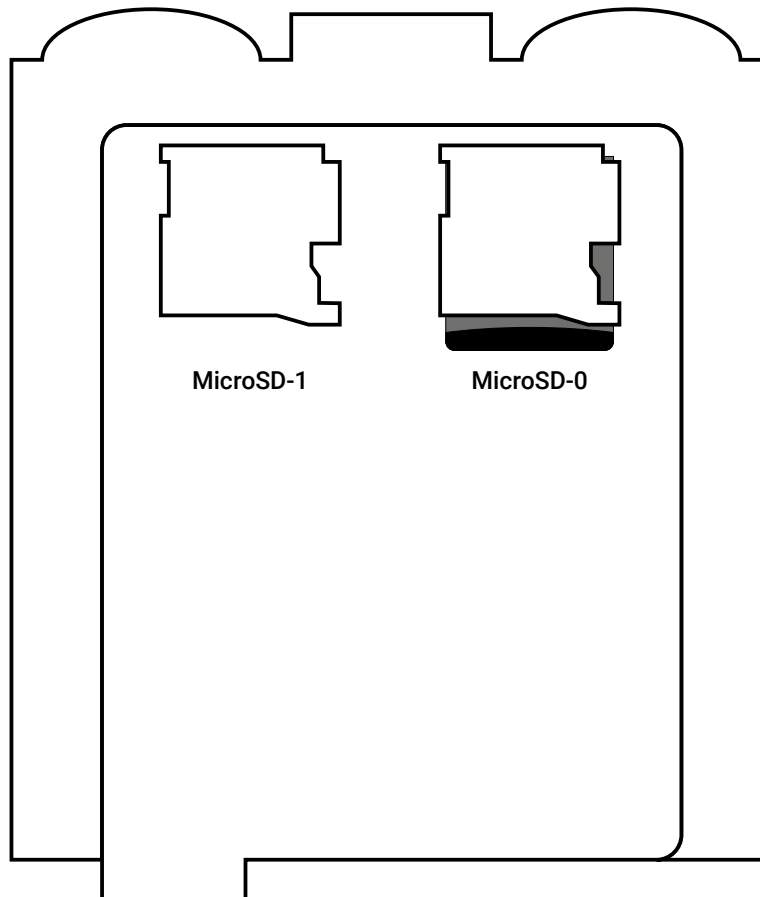

Figure 3. Device card
3. If operation in VPN network is required or COM ports operation should be changed insert MicroSD memory card into MicroSD-1 connector at the device card (fig. 3).
8. For the device operation in the VPN network, you must place the file "vpn.json"³ with the correct connection settings to an external storage device installed in a slot MicroSD-1 (see Fig. 3).
To configure the network settings (IP address, gateway, mask, DNS) you must place the file "network.json"⁶ to an external storage device installed in a slot MicroSD-1 (see Fig. 3). Before doing this, open the file with any text editor (e.g., Notepad) and enter the parameters in accordance with the configuration of your network.
To change the connection port and speed of the COM port you must place the file "MOST_RS232.json"⁷ to an external storage device installed in a slot MicroSD-1 (see Fig. 3). Before doing this, open the file with any text editor (e.g., Notepad) and change number to the required port (parameter "tcp_port") and speed (parameter "modem_speed").